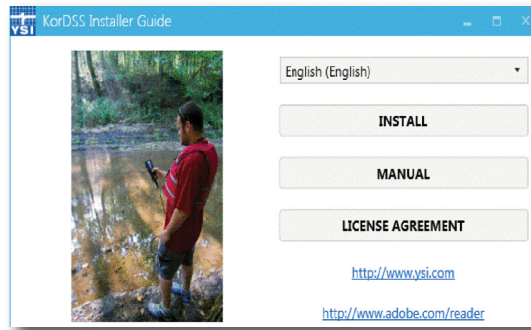

Figure 78 KorDSS Installer Guide
2. Depending on the PC operating system and system settings, the KorDSS Installer Guide may appear. If it does not appear, double-click **Start.exe** to start the installer guide (Figure 78).